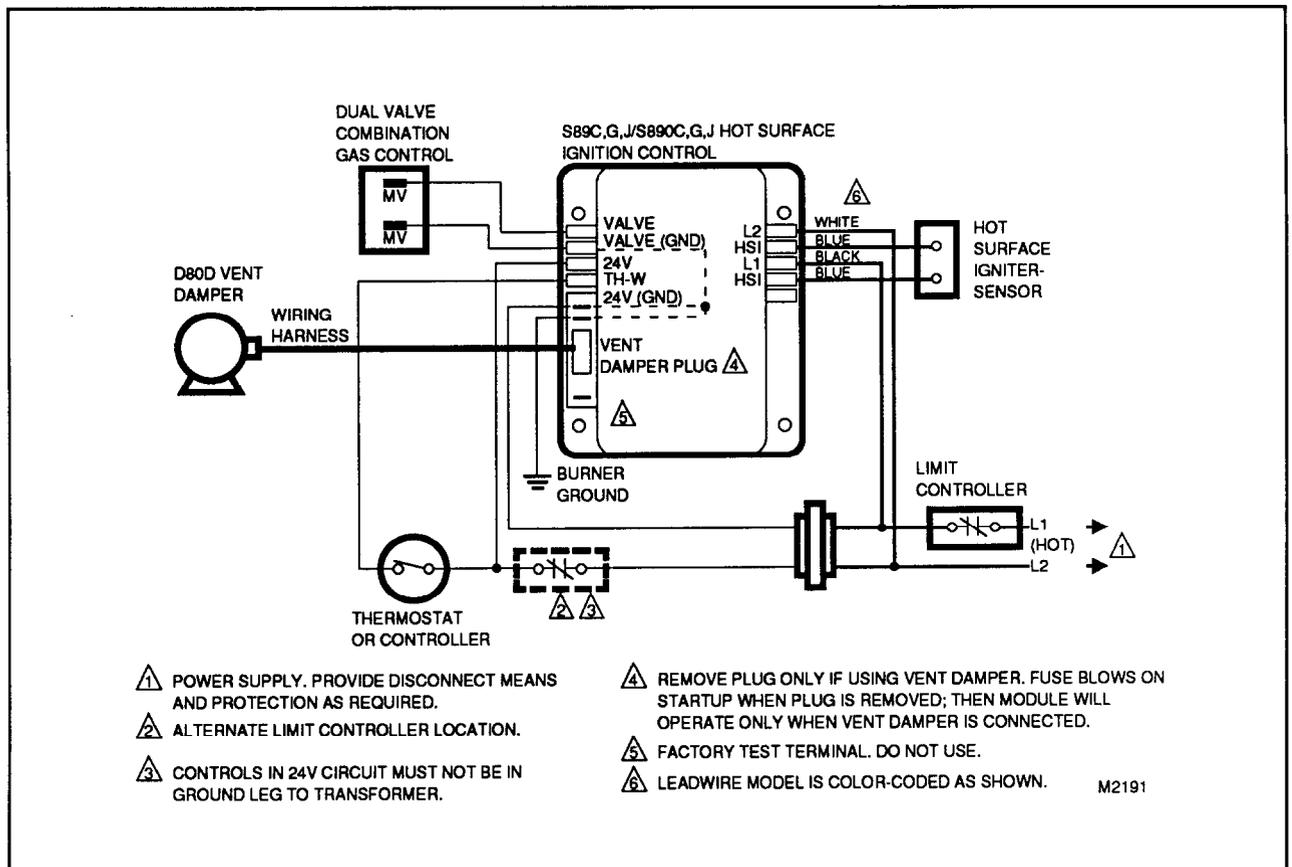

FIG. 4—S89C, G, J AND S890C, G, J IN AN ATMOSPHERIC BURNER HEATING SYSTEM WITH THE D80D VENT DAMPER.
- Figs. 4 and 5 show the C,G and J models with a D80 Vent Damper. *Never* use a vent damper in an LP gas system or in a fan-assisted combustion system.